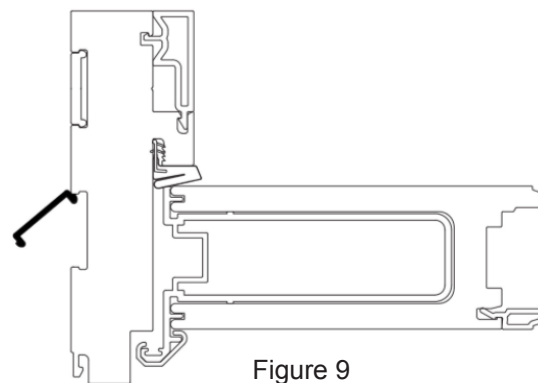

Figure 9
11. Locate the black lock cover and install it into the extruded channel on the lock jamb (Figure 9). Once installed, the lock cover will extend the entire length of the jamb, completely covering all lock holes.